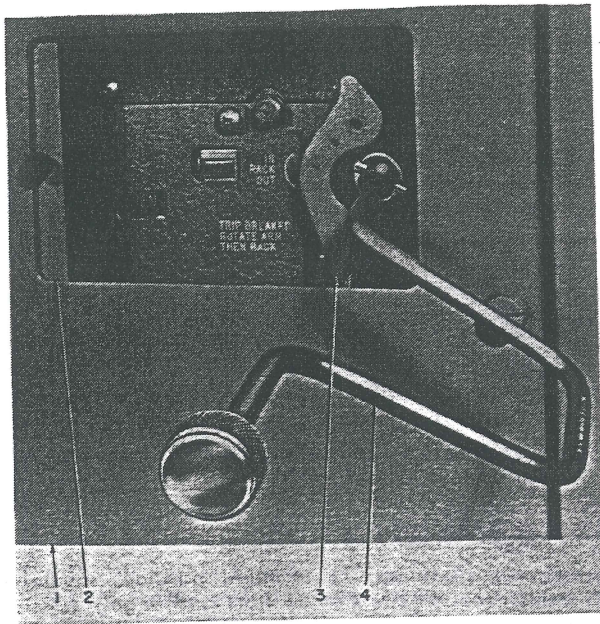

Fig. 3 — Method of Racking Circuit Breaker
Engage racking crank (4, Fig. 3) and push racking unlocking lever (3) to left, then rotate racking crank counterclockwise only until resistance to motion is felt. (DO NOT FORCE.)
To rack circuit breaker to "TEST" position, push racking unlocking lever (3, Fig. 3) to left, rotate racking crank approximately  $\frac{1}{4}$  turn clockwise, then release unlocking lever. Continue cranking until racking mechanism automatically stops at "TEST" position.
**FOR SAFETY:** When racking circuit breaker to "CONNECTED" position, close compartment door (1, Fig. 3) and insert racking crank (4, Fig. 3) through sliding panel (2, Fig. 3).
(See Fig. 3)